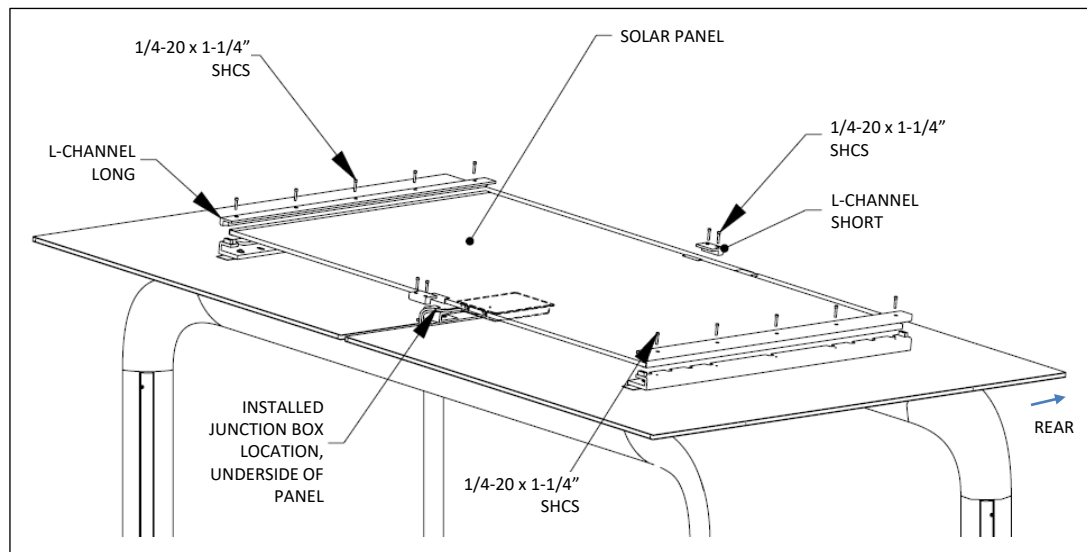

Fig. D6 – solar panel installation
11. Using proper glass handling techniques, set solar panel in position on top of C-channels in center of roof. Junction box should be on the underside of the panel, toward the front of the shelter, see Fig. D6. Connect wires to connectors that are factory-installed in front horizontal beam. Route wires in between roof panels, down along front of center rafter, tucking excess wires along side of rafter, see Fig. D8. Rafter skin will be installed after downlight is installed (see separate instructions).
12. Install L-channels as shown in Fig. D6, placing on top of C-channels until mounting holes align. Use hardware pack #62946.